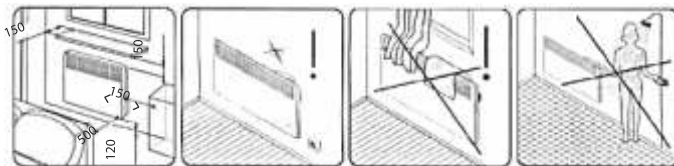

Fig. 2
Overall dimensions of the convector as per Fig.2 are given in Table 2.
Wall mounting of the convector (Fig. 2, 3) dimensions are given in mm.
3. In accordance with Fig. 2, 3 and table 2, determine the place of convector's installation observing minimum distances from objects and minimum distance from the floor.